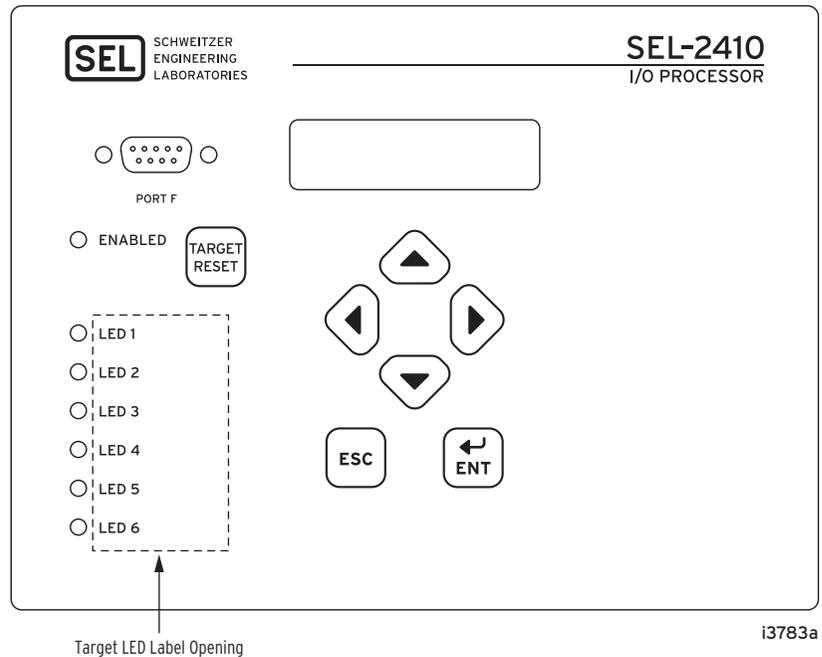

Figure 1 SEL-2410 Configurable Labels Area With Factory Default Labels
The SEL-2410 Configurable Labels Kit (shipped with each I/O processor) provides the materials and information needed to customize the Target LED area of the front panel. *Figure 1* shows the location of the Target LED pocket area and opening.
Use the default label supplied with the relay.	See Figure 1.
- Step 2. Slide the tip of the tool under the label at the label pocket opening (see *Figure 1* for opening locations).